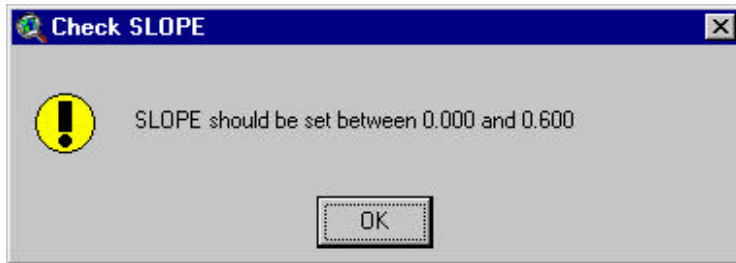

Figure 12.23
2. Edit data: Activate a parameter text box by clicking on it. Type the desired value. You can move to the next parameter by pressing the **TAB** key. If the value of the parameter is out of range, a message box like the one in Figure 12.23 pops up.